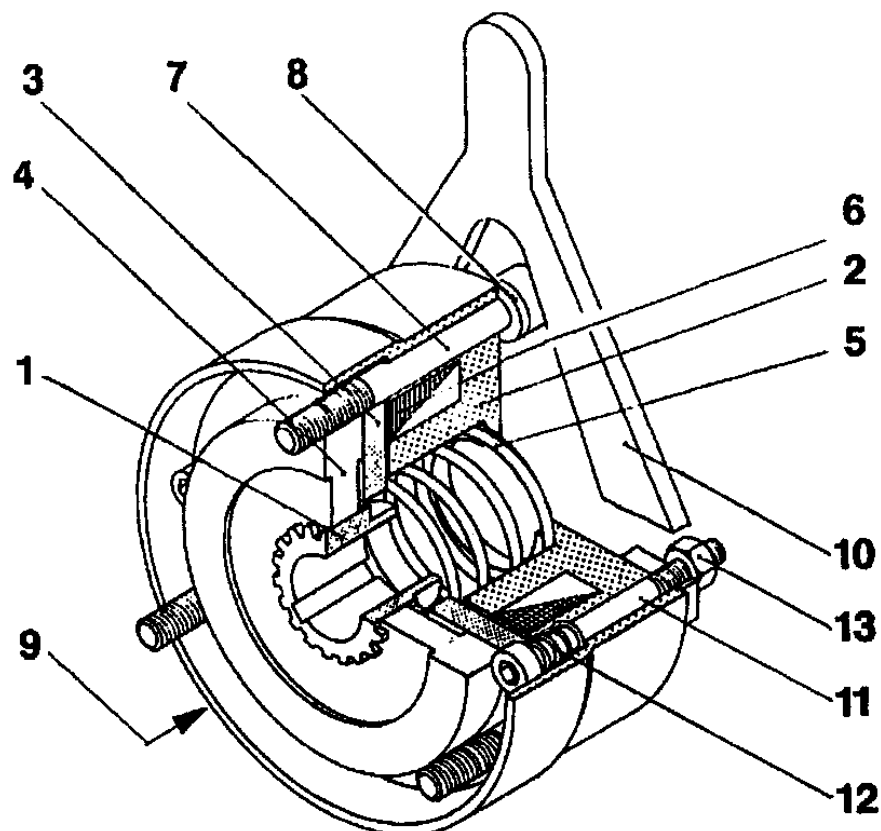

Fig. 1
## Brake Installation (Fig. 1)
1. Mount the hub (1) with the shoulder pointing backwards (Fig. 1) onto the shaft, bring it into the correct position and secure it axially (e.g. using a locking ring).
The shoulder screws (Item 9 / Fig. 1) prevent the individual parts from falling apart. They do not affect the brake function and must not be removed during installation.